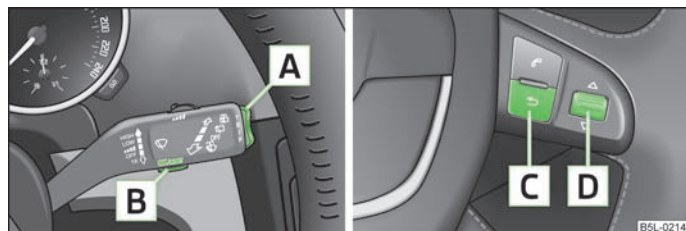

Fig. 6 Multi-functional indicator: Control elements on the windshield wiper lever/control elements on the multifunction steering wheel
Switching over the memory with the help of the button  » Fig. 6 on the windshield wiper lever or with the help of the adjustment wheel  » Fig. 6 on the multifunction steering wheel.
The rocker switch  » Fig. 6 and the button  are located on the windshield wiper lever. Switching over and resetting is performed with the adjustment wheel  on the multifunction steering wheel.
The outside temperature appears in the display when the ignition is switched on. If the outside temperature drops below +4 °C, a snow flake symbol (warning signal for ice on the road) appears before the temperature indicator and a warning signal sounds. After pressing the rocker switch **A** at the windshield wiper lever » Fig. 6 or the button **C** at the multifunction steering wheel » Fig. 6, the function shown last is indicated.
The driving time which has elapsed since the memory was last erased, appears in the display. If you wish to measure the driving time from a particular time, you must set the memory to zero at this moment in time by pressing the button **B** on the windshield wiper lever » Fig. 6 or the adjustment wheel **D** on the multifunction steering wheel » Fig. 6 for longer than 1 second.
If you wish to determine the average fuel consumption over a certain period of time, you must set the memory to zero at the start of the measurement using the button **B** on the windshield wiper lever » Fig. 6 or the adjustment wheel **D** on the multifunction steering wheel » Fig. 6. Dashes appears in the display for the first 100 m you drive after erasing the memory.
The distance driven since the memory was last erased appears in the display » page 15. If you wish to measure the distance driven from a particular time, you must set the memory to zero at this moment in time by pressing the button **B** on the windshield wiper lever » Fig. 6 or the adjustment wheel **D** on the multifunction steering wheel » Fig. 6.
The average speed since the memory was last erased is shown in the display in km/hour » page 15. If you wish to determine the average speed over a certain period of time, you must set the memory to zero at the start of the measurement using the button **B** on the windshield wiper lever » Fig. 6 or the adjustment wheel **D** on the multifunction steering wheel » Fig. 6.
- ▶ With the button **A** on the windshield wiper lever » Fig. 6 or the adjustment wheel **D** on the multi-function steering wheel » Fig. 6, select the menu point **Warning against excessive speeds**.